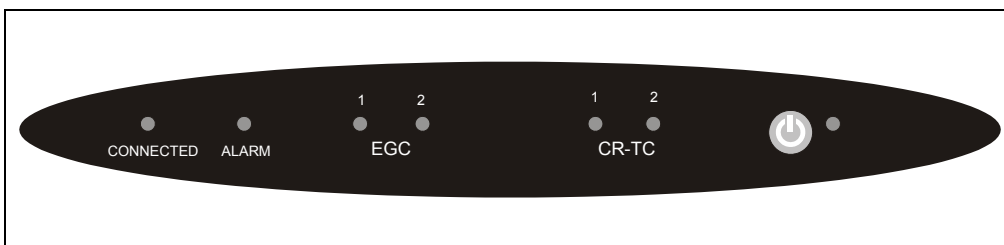

Figure 2-7. EG Status Bar
The status bar on the front of the ICS-3000 Eluent Generator (EG) includes buttons that provide control of certain EG functions, as well as LEDs that indicate the status of several EG functions (see Figure 2-7).
**NOTE** For routine on/off control, use the **POWER** button on the front of the EG (see Figure 2-7). To turn off the EG, press and hold the **POWER** button for 2 seconds.